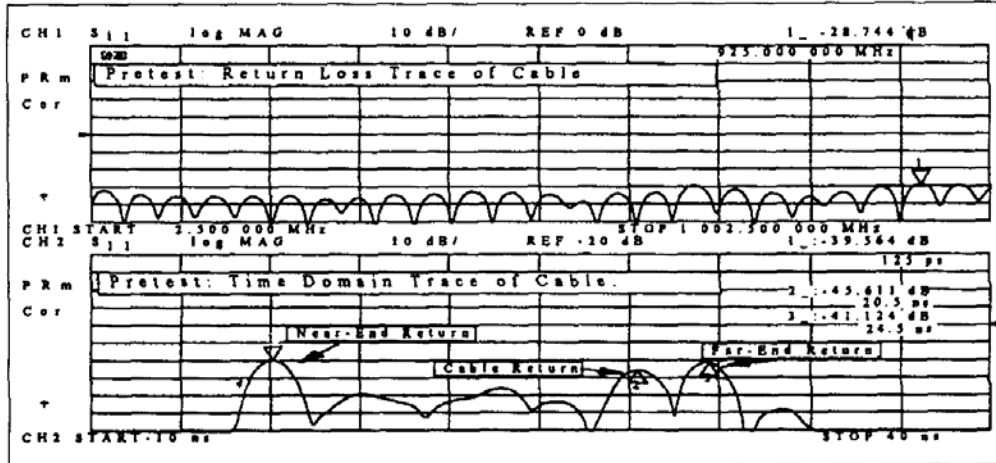

Figure 2: Pre-Test Measurement of Cable Assembly
- 4.4 Connect the cable from 3.1 to the network analyzer. Be sure to properly dress the center conductor to avoid damage to the precision "F" test adapter. Be sure a proper termination is applied at the far end of the cable. Check the reflection trace, there should be a ripple pattern in the return loss indicating the beat pattern of the near end cable connection and the far end termination. A typical trace is shown in the upper part of Figure 2. Under the Transform menu, the time domain transform can be turned ON to see the time domain response of the cable and connections. With time domain on, set the start time to –10ns, and the stop time to 40ns. You should see two returns, one from the near end, and one from the far end. Any returns from the cable should be less than 0.03 reflection coefficient (-30 dB), and the near and far end returns should be less than 0.1 (-20 dB). Any defects in the cable or the connections greater than these values may degrade the measurement. The lower trace of Figure 2 shows a typical domain trace. This pre-test ensures that the cable and end connectors are of sufficient quality to test the in-line "F" connectors. Turn the TRANSFORM OFF when the pre-test is complete.